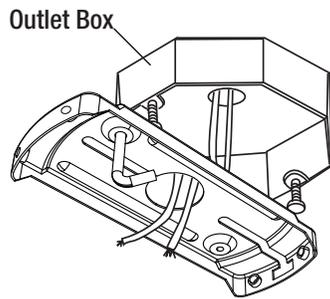

Figure 6
- Pass the 120-volt supply wires through the center hole in the mounting plate as shown in Figure 6.